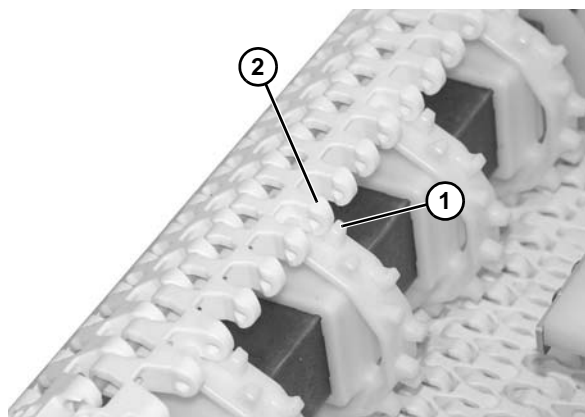

Figure 18
6. Wrap the belt around the drive end of the conveyor, making sure the sprocket teeth have engaged the belt, with concave teeth (Figure 18, item 1) mating with rounded section (Figure 18, item 2) of belt.